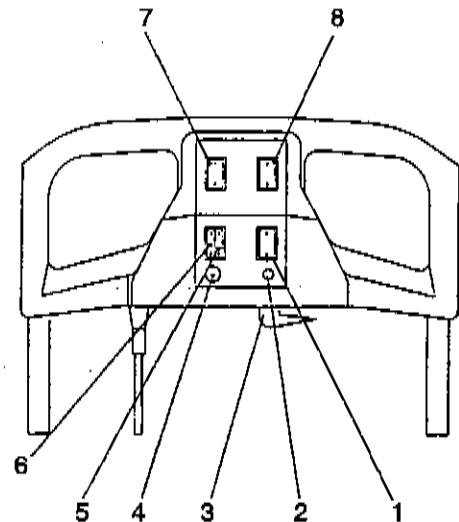

Fig. 5
11.1 CONTROLS (FIG. 5)
1. Connect the accessory pipe (1) to the relevant fitting (2).
2. Turn the suction inlet (2) counter-clockwise to activate suction.
3. Fit the water pipe (3) with the snap coupling (4).
4. Shut off the valve (5).
5. Turn on the machine using controls 1-6-7 (see FIG. 5). The accessory will wash and dry. At the end of your work, turn off the machine. To disconnect the accessory, open up the valve (5), release any residual pressure and disconnect the pipe. Shut off the suction inlet before turning on the machine.
- 2) Make sure all switches are in "stop" position (O) and plug in the machine.
- 3) Push the handle to work position (L).
- 4) Turn on the Main (1), Brush (5) and Water Pump (7) switches or (8) (Fig. 5).